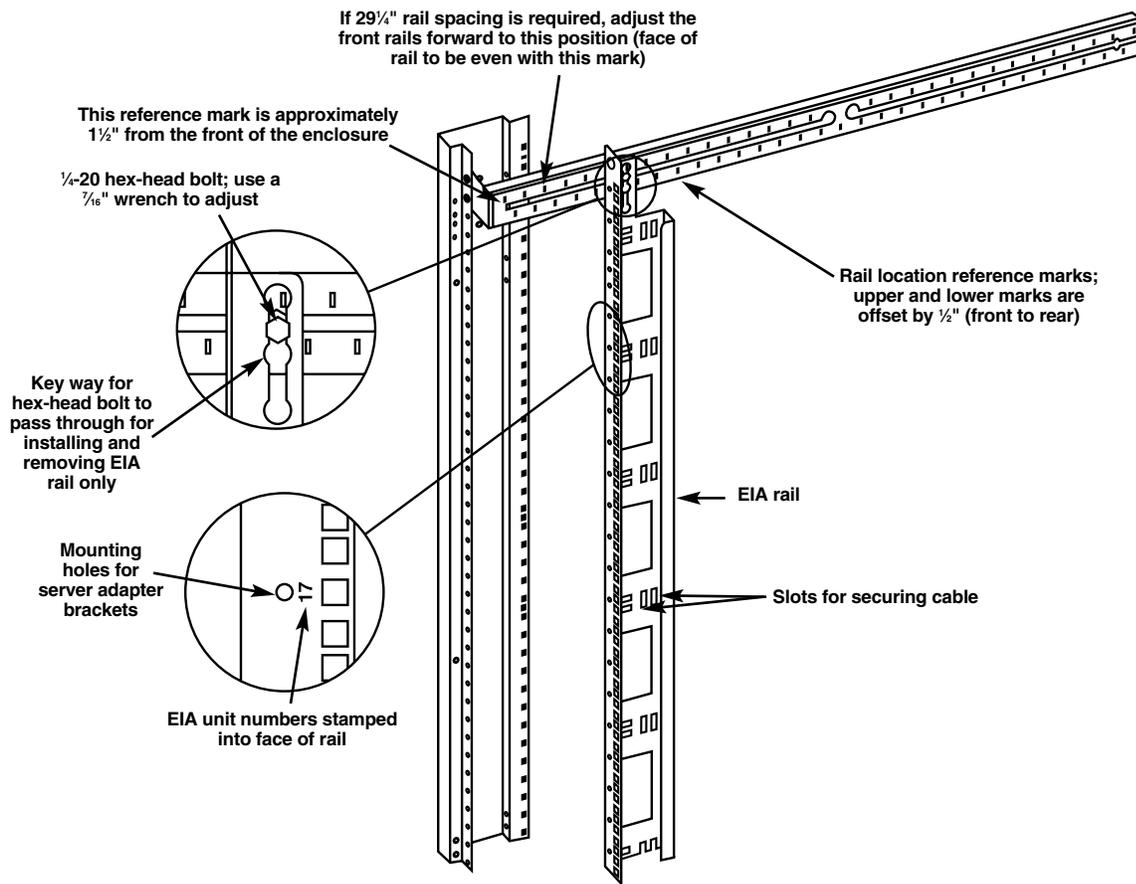

Figure 3-1. EIA rail adjustment.
1. Loosen one of the  $\frac{1}{4}$ -20 bolts approximately  $\frac{1}{2}$  turn with a  $\frac{7}{16}$ " wrench as shown in Figure 3-1. Don't remove the bolt. Loosen the other bolt.
2. Slide the rail to the desired position. Use the reference marks (see Figure 3-1) for convenience.